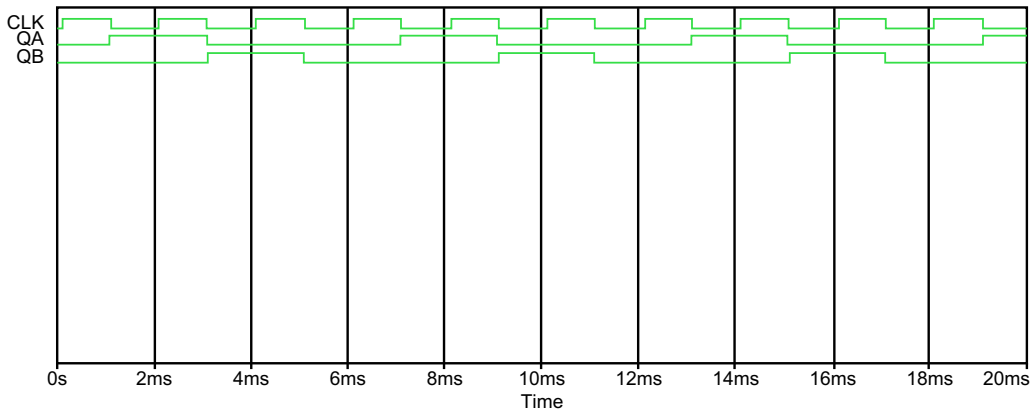

FIGURE 22.23
26. Place voltage markers on QA and QB and run the simulation. You should see the circuit response as shown in Figure 22.23.